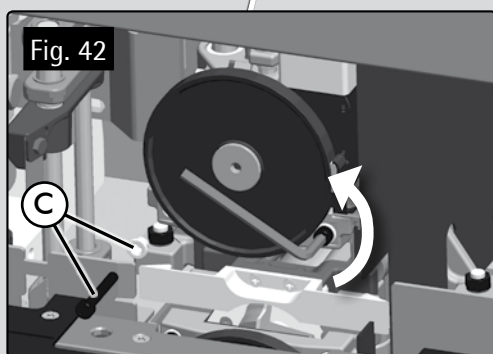

Fig. 42
- Remove screws C (Fig. 42), using the service key.